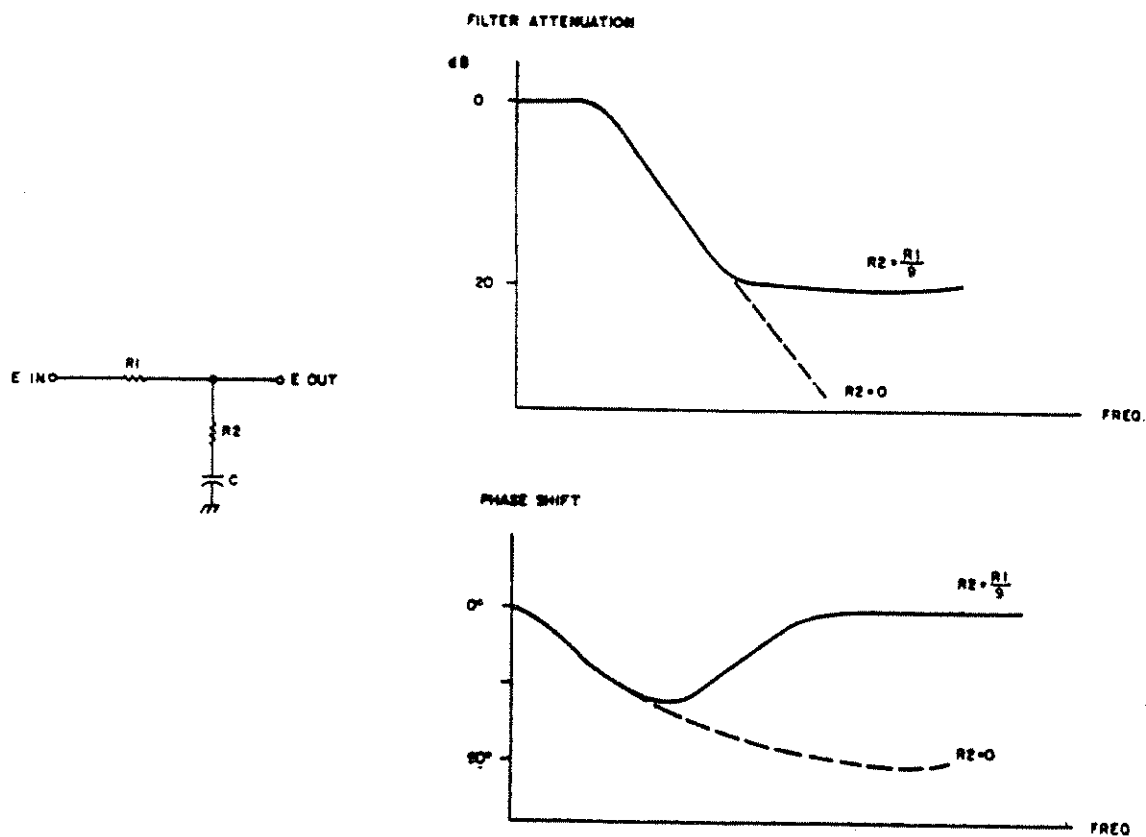

Figure 3-11. Loop Filter, Simplified Schematic Diagram and Curves
(4) Loop Filter. — The loop filter provides a frequency cutoff in the amplifier. Spurious components of the applied RF signal are prevented from modulating the VCO frequency. Cutoff must be achieved without a phase shift causing circuit instability. Ordinary low-pass networks cannot be used, as the phase shift of each approaches 90°. As seen in Figure 3-11, as the frequency increases the attenuation of each network approaches a constant value corresponding to the voltage output of divider R1 and R2. In addition, as the frequency increases, the phase shift returns to 0°. Three such networks are used. The first network (R151, R158, C152) is located in the amplifier input. While the VCO synchronizes to the input carrier frequency, C152 becomes part of the sawtooth generator as described later in paragraph (5).